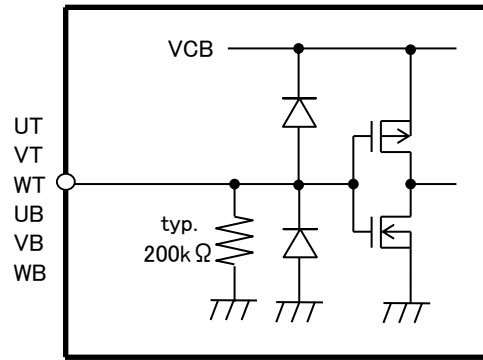

FIGURE 2.2.2 Equivalent Circuit Around UT, VT, WT, UB, VB, WB Pins
- Note 3: Internal pull-down resistor is typically 200kΩ. The equivalent circuit is shown in FIGURE 2.2.2.